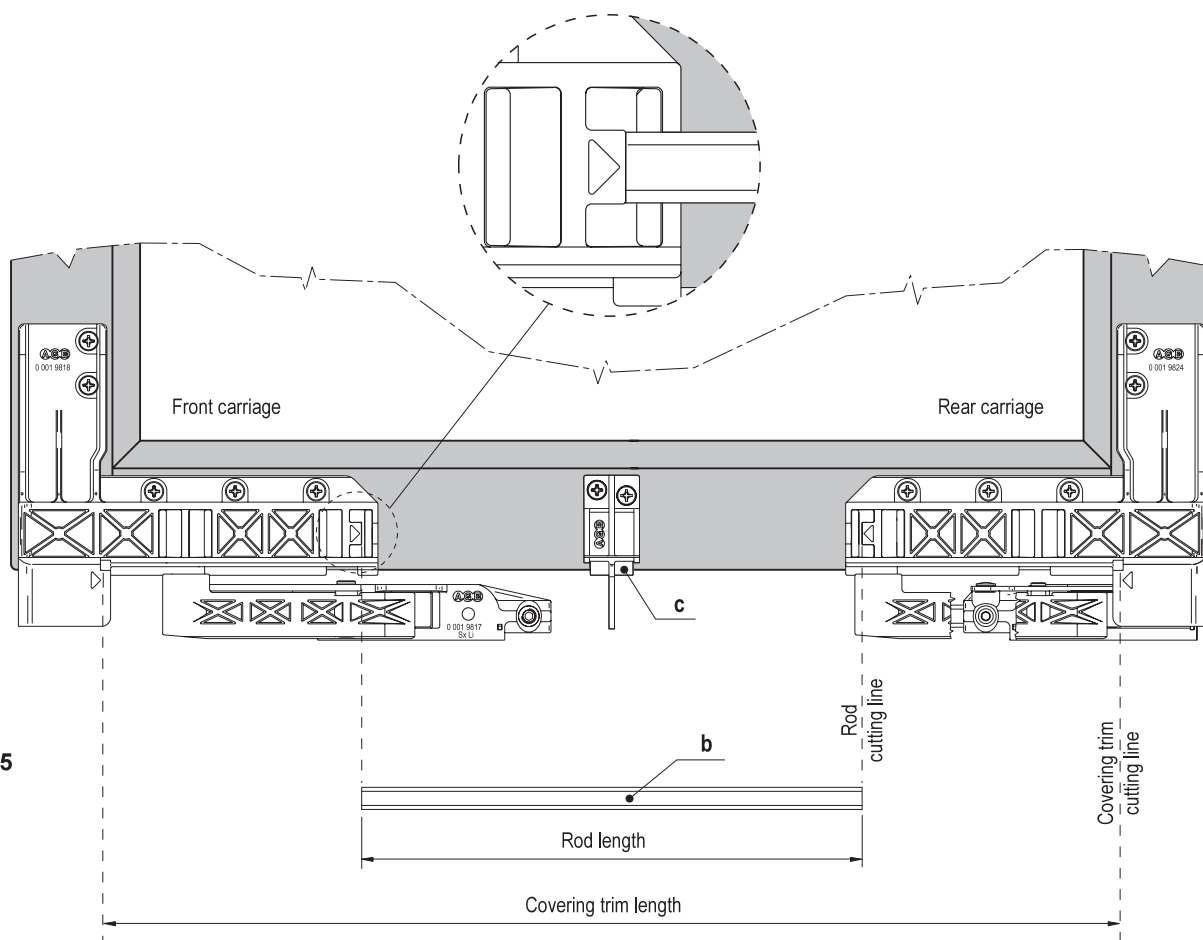

fig. 5
- 5) Lay the carriage connecting rod (b) in the seat (marked by an arrow) of one of the two carriages and mark the cutting dimensions corresponding to the arrow on the opposite carriage (fig. 5).
- 7) To cut the cover trim to size refer to the arrows marked on the carriages (fig. 5).